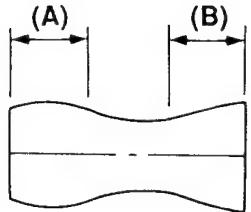

Fig. 5-4-7 Adjustment points
4. If the (A) section in Fig. 5-4-7 does not meet the specifications, adjust the S-guide roller in up or down direction.
5. If the (B) section in Fig. 5-4-7 does not meet the specifications, adjust T-guide roller in up or down direction.